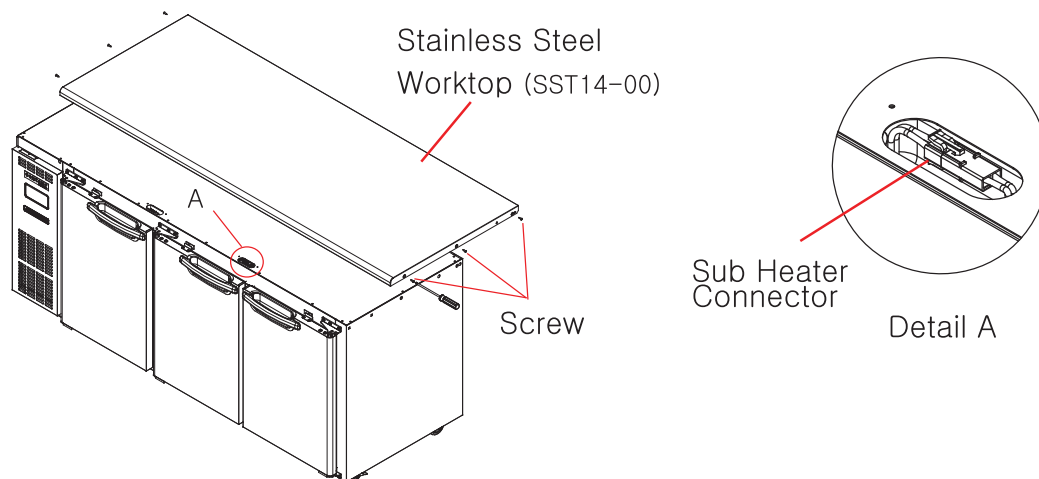

Fig 9-39
5. Locate the door sub-heater by removing the screws of the top pan. (Fig 9-39)